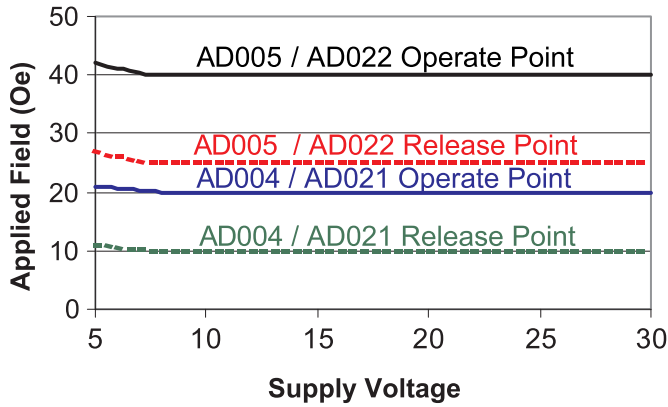

Figure 10. Typical Operate and Release Points vs. supply voltage (25°C).
- Added cross-axis versions to Figures 10 and 11 graphs (p. 8).